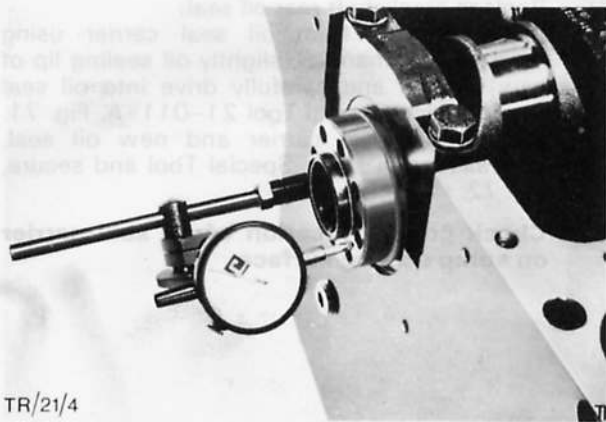

Fig. 69. Check crankshaft end float
42. Check crankshaft end float using standard dial indicator, Fig. 69. Use oversize thrust washers, if necessary.